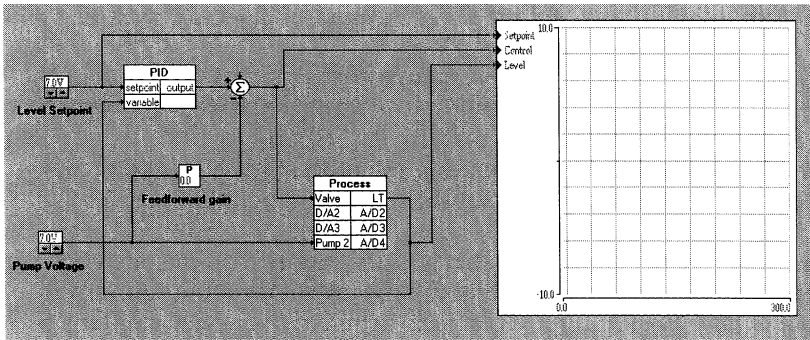

Figure 75 Screenshot of Experiment 7.
- 3) Look at the CE2000 screen (or Figure 75). The system is set up for PI control of the process vessel using the valve position as the controlled variable. Because the pump speed may vary, there is a **feedforward gain** between the pump 2 input voltage and the output of the PID controller. Set the **feedforward gain** to zero. Set the PID controller to: